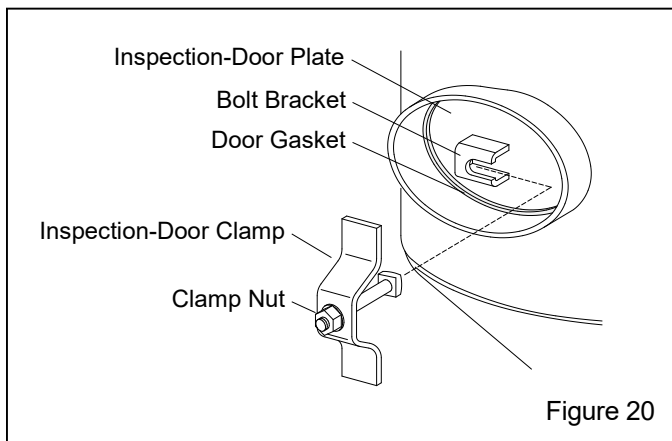

Figure 20
1. Loosen the inspection-door clamp nut enough to slide the clamp bolt from behind the bolt bracket; then remove the clamp, bolt, and nut, as an assembly, as shown in Figure 20.